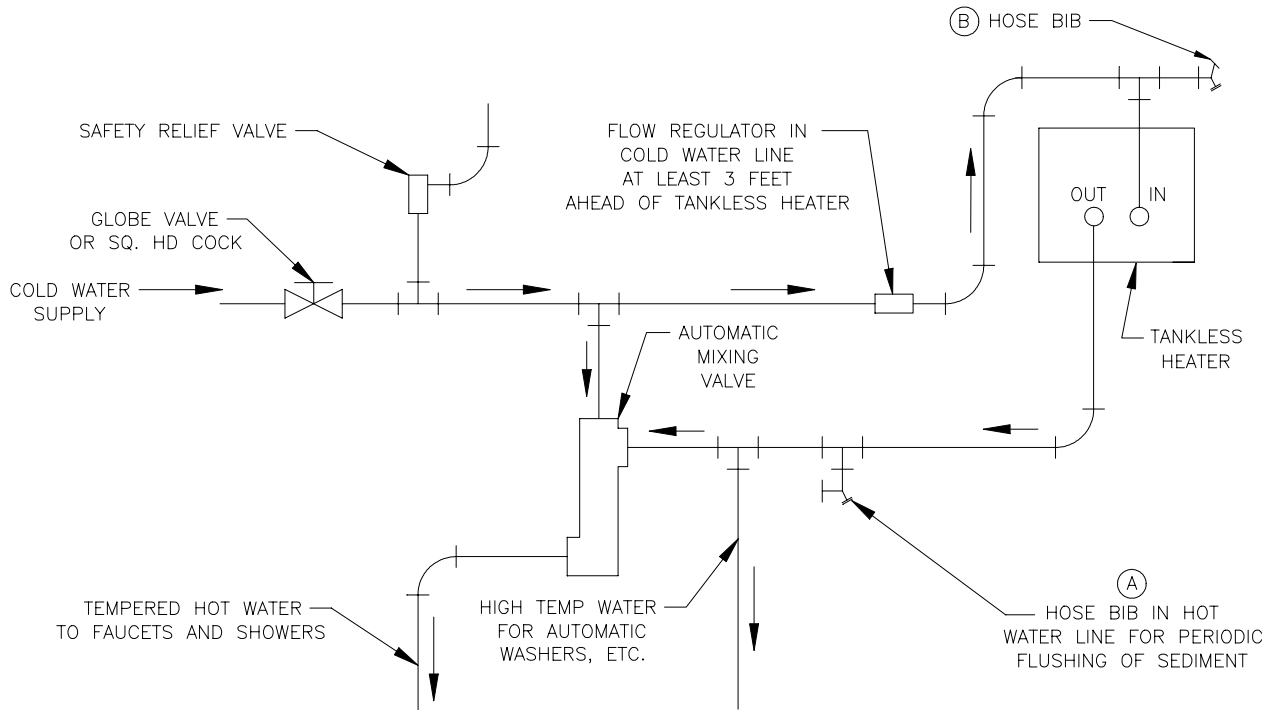

Figure 11: Schematic Tankless Heater Piping
F. CONNECT TANKLESS HEATER PIPING AS SHOWN IN FIGURE 11. See Table 1 for Tankless Heater Rating.
2. **TEMPERING OF HOT WATER** — Installation of an automatic mixing valve will lengthen the delivery of the available hot water by mixing some cold water with the hot. This prevents the possibility of scalding hot water at the fixtures. In addition, savings of hot water will be achieved since the user will not waste as much hot water while seeking a water temperature. Higher temperature hot water required by dishwashers and automatic washers is possible by piping the hot water from the heater prior to entering the mixing valve. The mixing valve should be "trapped" by installing it below the cold water inlet to heater to prevent lime formation in the valve. Refer to Figure 11.